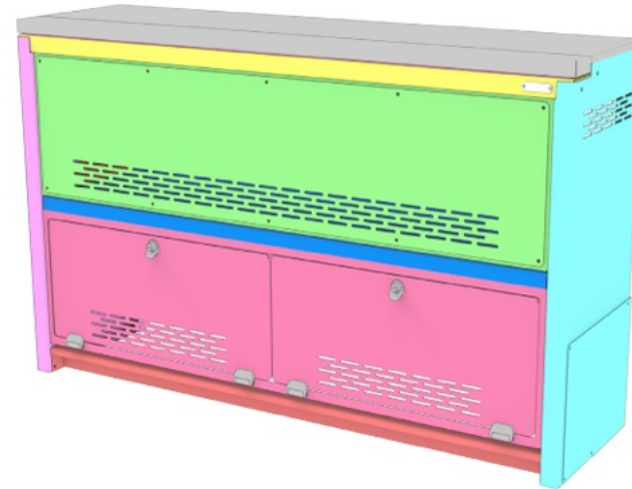

FIG 11
**3.1 Choose Table Side Configuration:** You may choose to have the **Utility Access Panels** or the **Solid Panel/Bungee** on *either* the **top** or the **bottom** of your **Middle Shelf**, depending on your needs. See **FIG 11** and **12** for visuals of both options. For best results, we'll be starting with the bottom set of doors.